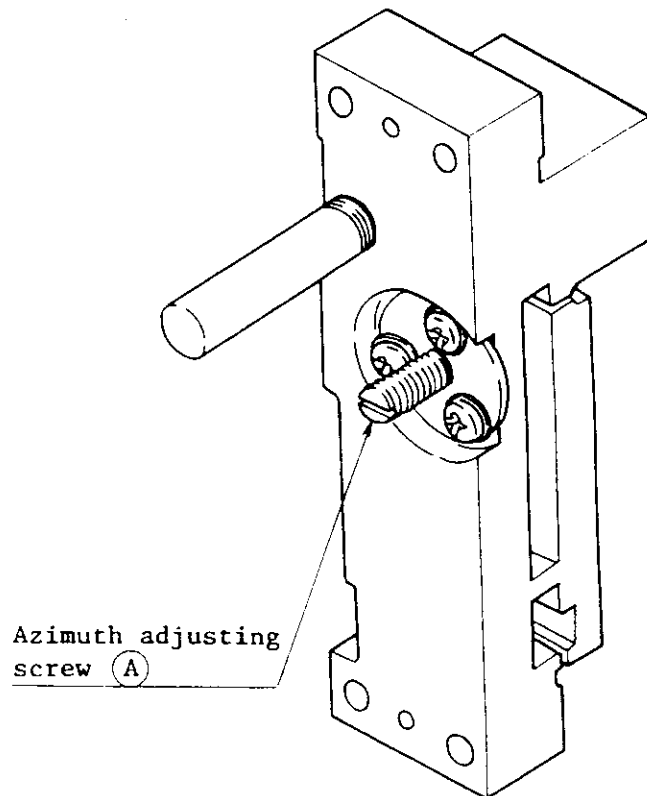

Figure K.14 Head block (rear of the MTU)
- (1) Perform the dynamic alignment procedures in L0130.
- (2) Connect an oscilloscope to tracks 1 and 9 as described in K0120 and observe the phase difference in the rising waveforms. Use track 1 as the trigger. Adjust the phase of the two waveforms using the azimuth adjusting screw A (Figure K.14) until the requirements listed in the table (K0120) are met.
- (3) Check that track 2 through 8 (compared to track 1) meet the same requirements.
- (4) Observe backward (BWD) operation. If the requirements in the table of K0120 are satisfied, no adjustment is needed.
- (5) If the requirements are not satisfied (6250/1600 bpi MTU), turn the upper capstan alignment adjusting screw until the backward skew is correct. If track 9 leads track 1, turn the screw counterclockwise. If track 1 leads track 9, turn the screw clockwise.